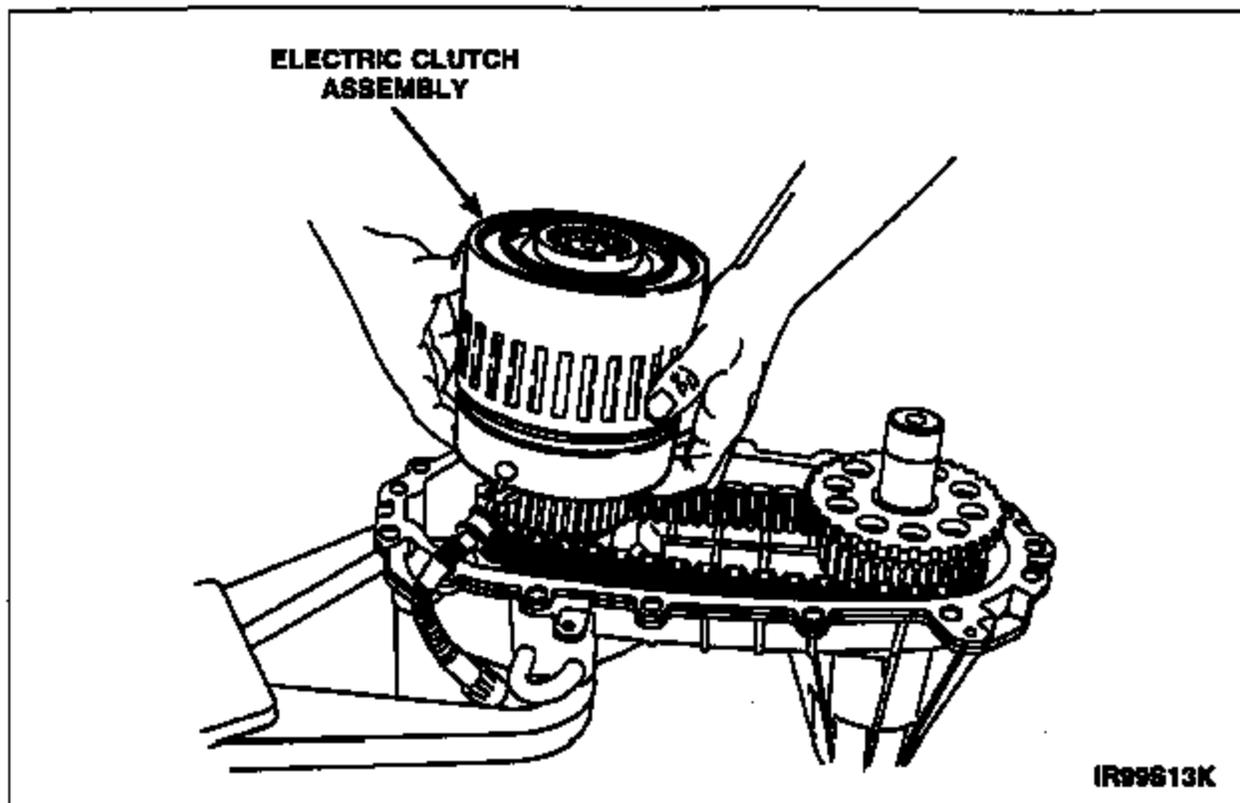

FIGURE 11
41. Remove the electric clutch assembly. See Figure 11.